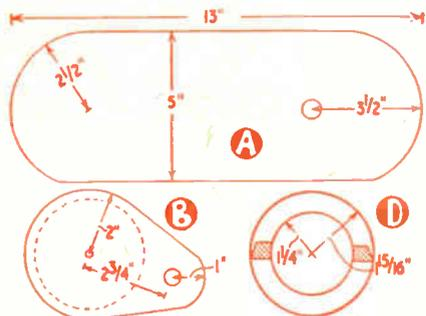

Fig. 2
is cut from ¼in. wood, the dimensions being shown in Fig. 2, which also gives details of pieces (B) and (D). Cut these from ¼in. wood and shape piece (D) to the section shown. Note that the flex goes through the small hole in piece (B).